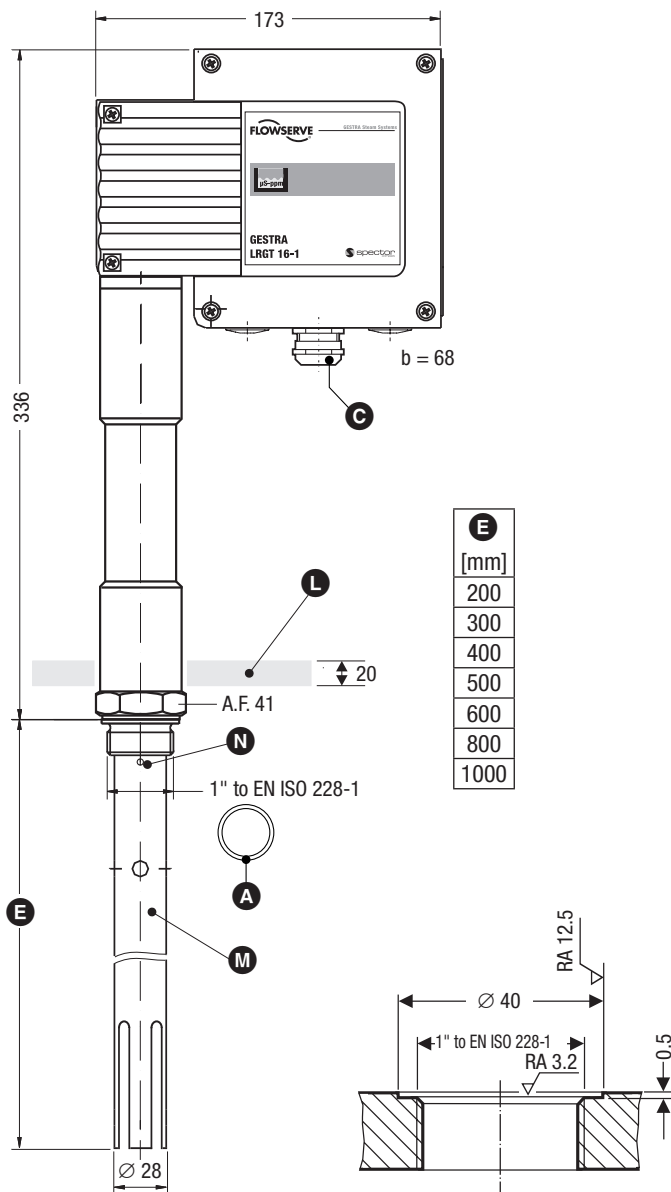

Fig. 2 LRGT 16-1
1. Check seating surfaces of threads or mounting flange provided on vessel or boiler standpipe (see **Fig. 2, 3, 4**). If necessary re-work the surfaces according to the specification indicated in the drawing.